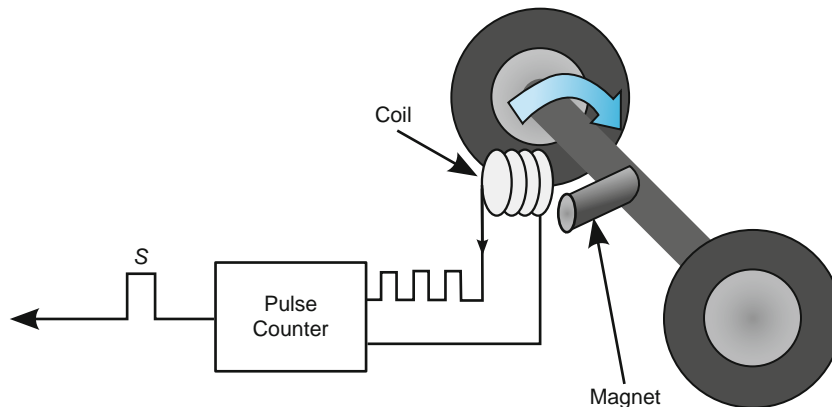

FIGURE 10.15 Electrical Digital Speed Sensor
We could simply adapt this mechanical sensor to the cruise control. But the mechatronic approach suggests a different solution. The control system employs a digital controller, the microprocessor. So why not design a sensor that is also digital? Such a digital speed sensor is shown in Figure 10.15. It is based on the fact that a magnet moving past a coil of wire induces a pulse of electric current in the coil.
In the speed sensor in Figure 10.15, a magnet is attached to, and turns with, one of the car's axles. A stationary coil is placed so that the magnet passes the coil each time the axle rotates. When the magnet passes the coil, it induces a current pulse in the coil. So the number of pulses per second in the coil is proportional to the number of revolutions per second of the axle. This provides a direct digital speed measurement for use by the cruise control system. A simple mathematical model of this speed sensor is the subject of one of the exercises at the end of this chapter.
14. Suppose a car employs a digital speed sensor as shown in Figure 10.15, and the car’s wheels are each 0.60 meters in diameter. If the speed sensor consists of the magnet and coil and the magnet induces one pulse in the coil for every revolution of the axle, how many pulses per second will the coil send to the pulse counter if the car is traveling at 65 miles per hour? (**A: 15 pulses/s if there is one pulse per revolution**)